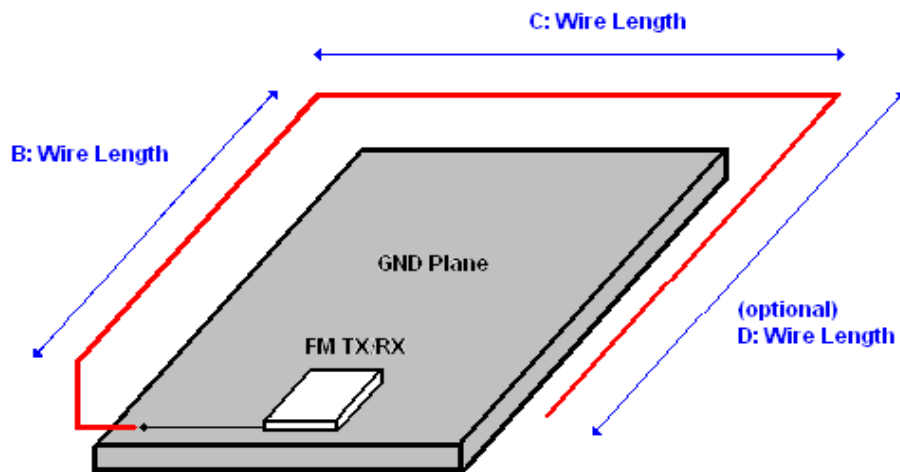

Figure 12. U-Shaped Stub (Wire) Antenna—Orthogonal View
- Route the antenna as a "U" shape as shown in Figure 12.